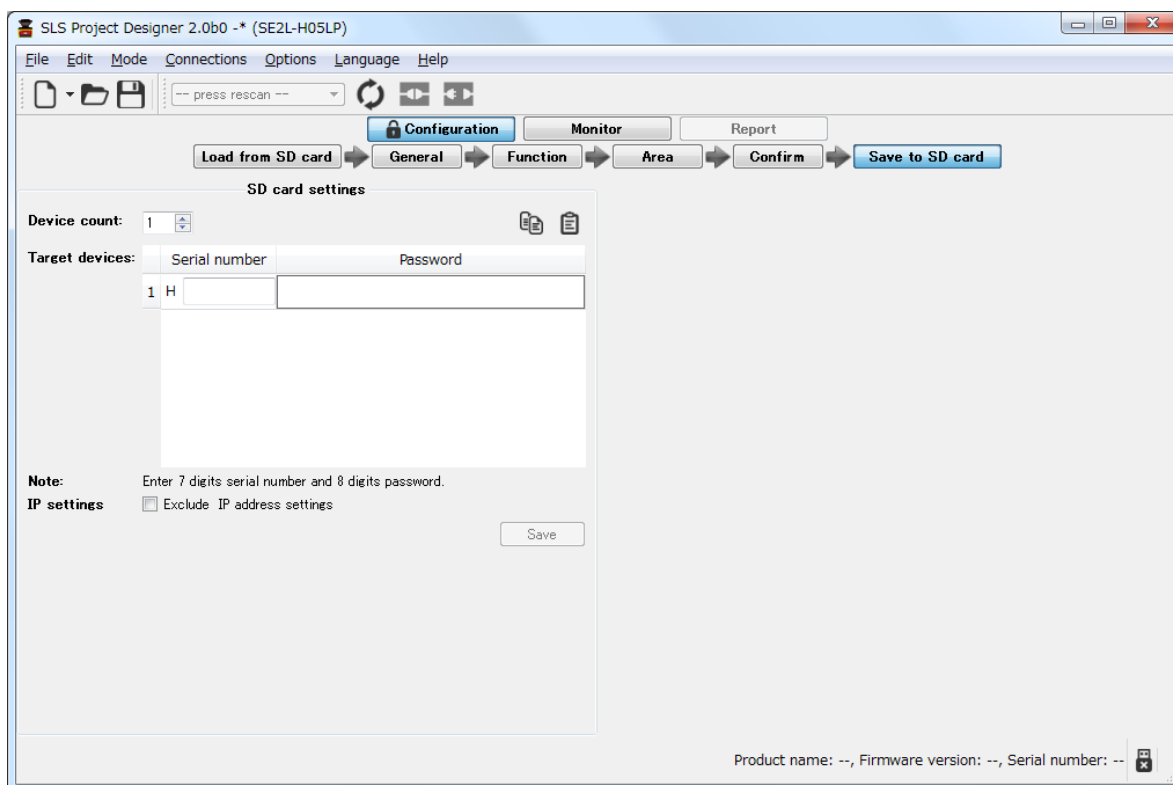

Figure 7-60 SD Card setting screen
- e) In the SD card setting tab (Figure 7-60), enter the 7 digit serial number and the passwords of all the SE2Ls intended to be configured with the settings on the SD card. To prevent the change of IP address of the SE2L, check the “Exclude IP address setting” on the tab. This will retain the original IP address of all the SE2L.